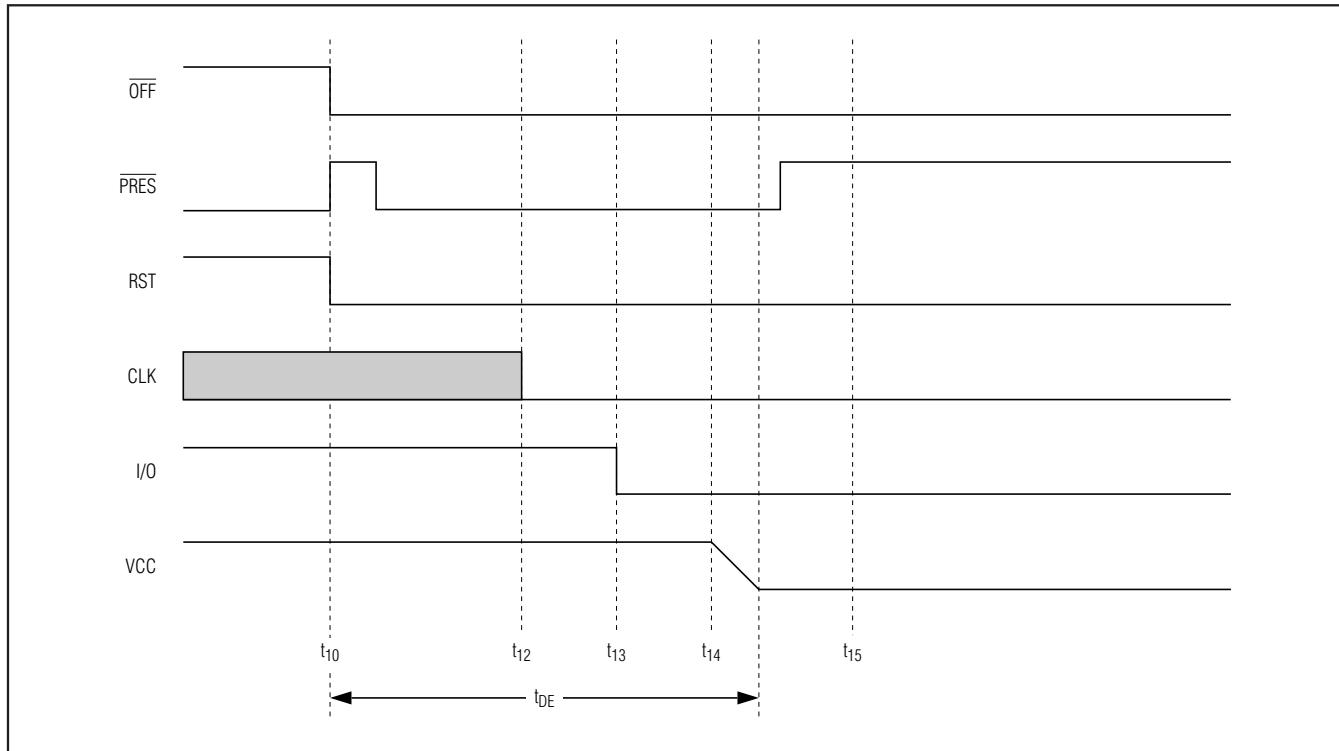

Figure 7. Emergency Deactivation Sequence (Card Extraction)
- **CMDVCC Low Within a Card Session.** Output \overline{OFF} goes low when a fault condition is detected, and an emergency deactivation is performed automatically (Figure 7). When the system controller resets CMDVCC to high, it may sense the \overline{OFF} level again after completing the deactivation sequence. This distinguishes between a card extraction and a hardware problem (\overline{OFF} goes high again if a card is present). Depending on the connector's card-present switch (normally closed or normally open) and the mechanical characteristics of the switch, bouncing can occur on the PRES signals at card insertion or withdrawal.